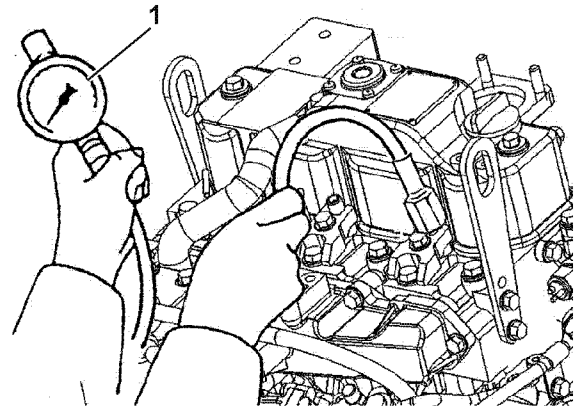
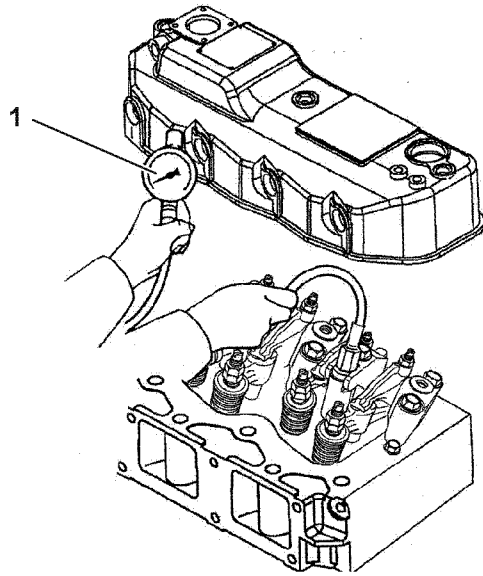

Figure 14-1
Figure 14-2
5. Before installing the compression gauge ((**Figure 14-1, (1)**) 2 valve engine, (**Figure 14-2, (1)**) 4 valve engine) adapter, crank the engine with the stop solenoid disconnected for a few seconds to clear the cylinder of any residual fuel.